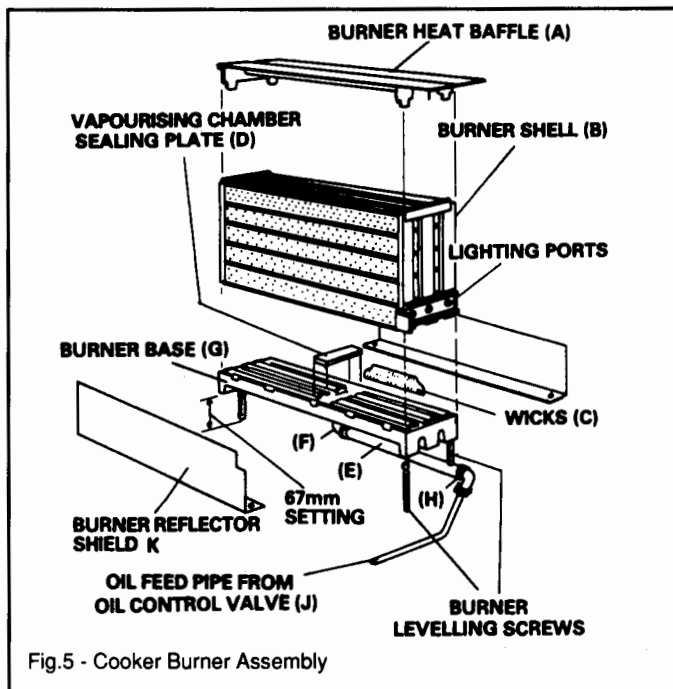

Fig.5 - Cooker Burner Assembly
- Break the cooker oil feed pipe at inlet joint **H** (Fig.5) taking care to collect Kerosene residue from burner oil pipe when inlet joint is separated.
(ii) Carefully lift complete oil burner assembly (See Fig.5) out of combustion chamber, and stand on servicing surface.
To Clean Cooker Burner - See Fig.5